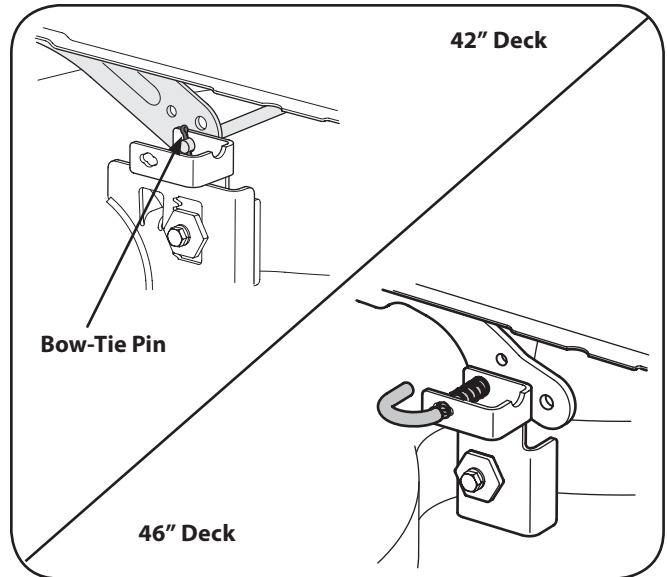

Figure 7-2
5. **On 42" Decks:** Looking at the cutting deck from the left side of the tractor, locate the bow-tie pin that secures the deck support rod on the rear left side of the deck. See upper half of Figure 7-2. Remove the bow-tie pin that secures the deck support rod, and carefully remove the deck support from the deck lift arm.
On 46" Decks: Looking at the cutting deck from the left side of the tractor, locate the deck release handle. See lower half of Figure 7-2. Pull the deck release handle and carefully release the deck from the deck lift arm.